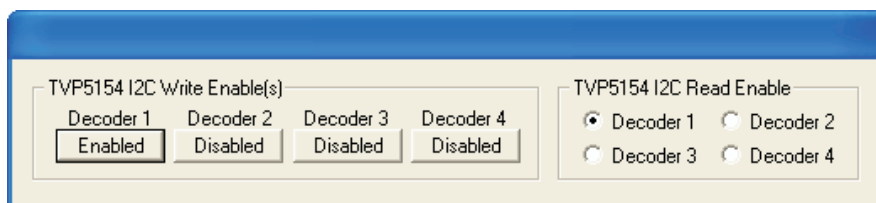

Figure 4. Decoder I²C Write and Read Enable
- The TVP5154 I²C Write Enable(s) and Read Enable pop-up window is displayed (see Figure 4). This window is used to select which decoder or decoders (any combination of all four) will receive I²C Write commands and which decoder (only one) will receive I²C Read commands. Decoder 1 is enabled by default; enable the other three decoders by clicking on each decoder's enable button.